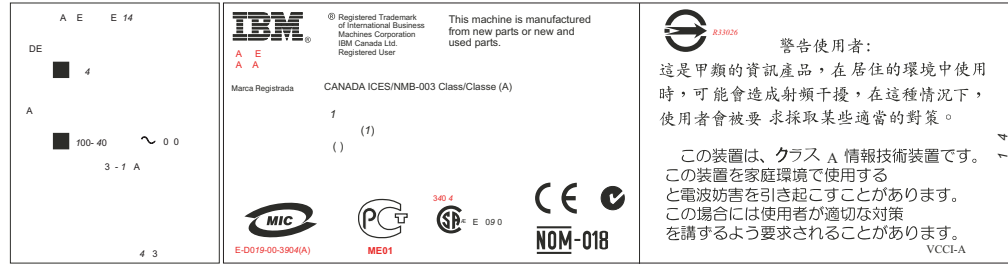

Figure 3. Agency/ratings label for SAN Volume Controller
1. Agency/ratings label. See Figure 3 on page xix.